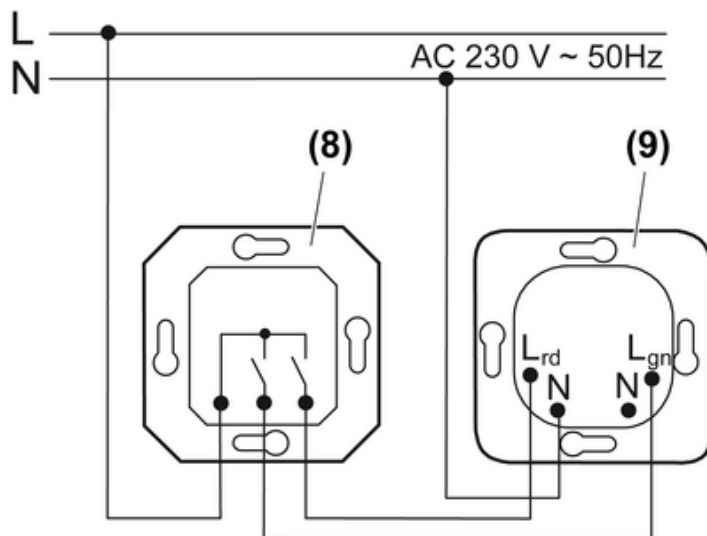

Figure 3: Connection example for signal lamp
- Connect signal lamp as shown in the connection example (Figure 3). Instead of the series switch (8), which can be used to switch the two colours separately, it is also possible to use a change-over switch, which serves merely to switch between the two colours.